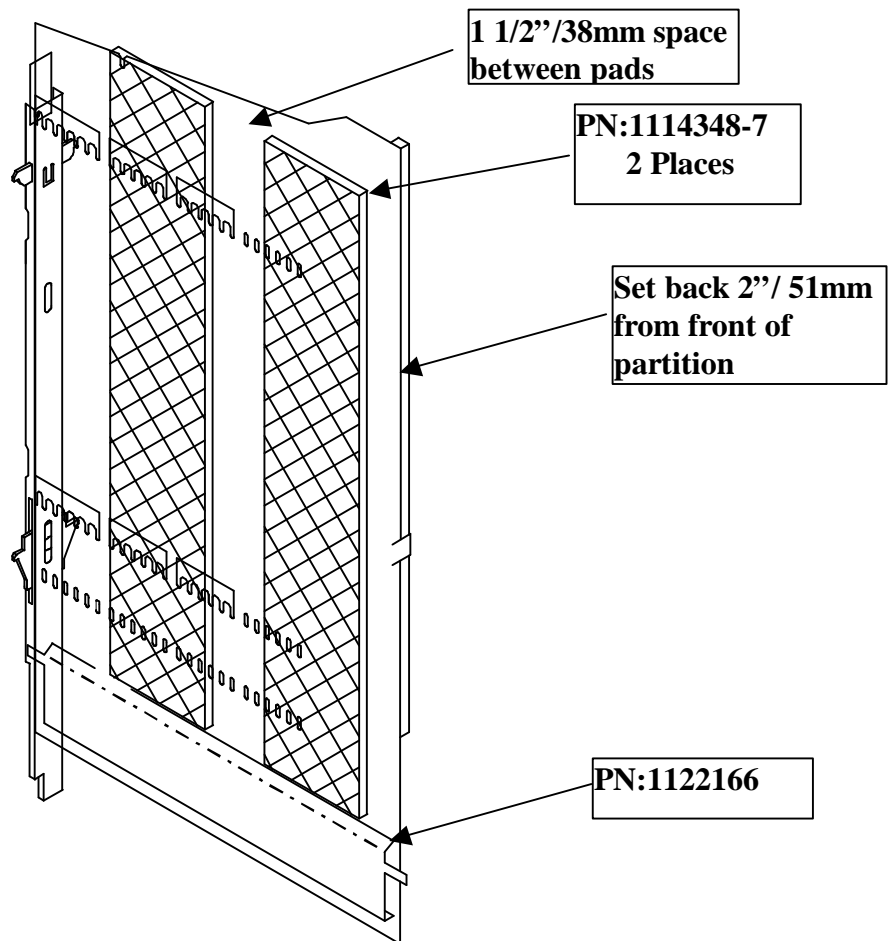

Figure 1
*Install magnetic column spacers into right side of partition above product side spacer (See Figure 1 for installation detail)
Installation (see Figure 1)
Locate pads as shown in Figure 1 above the .74 product side spacer (P/N1122166)